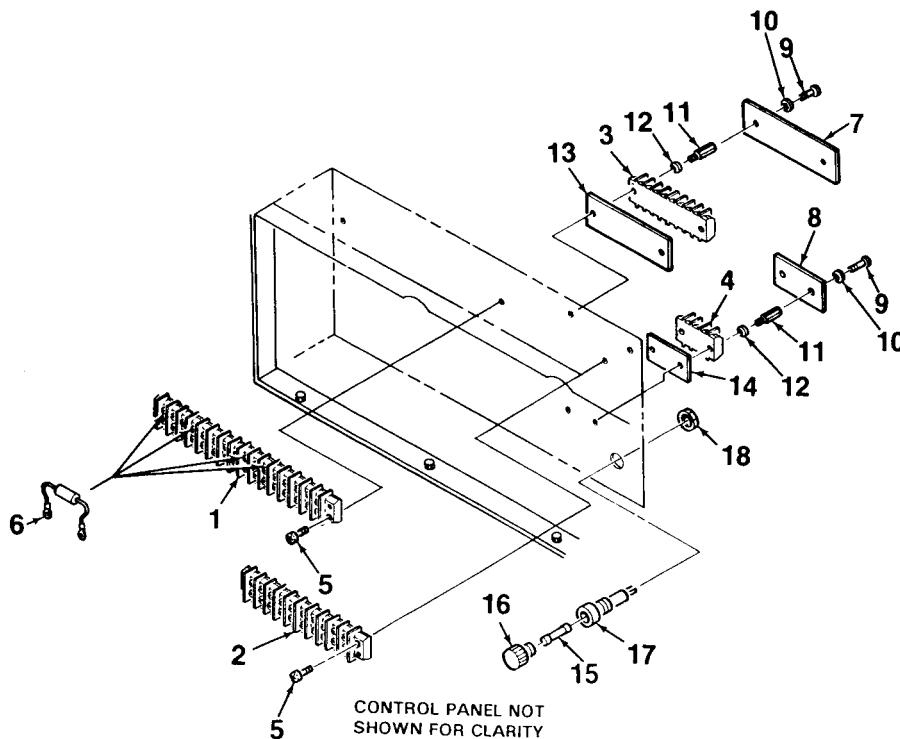

Figure 4-16. Terminal Blocks, Fuse, and Diodes
1. To remove fuse (15, Figure 4-16), turn quarter-turn fasteners to unlock and open control panel. Unscrew cap (16) from fuse holder (17) and remove fuse.
2. Tag and disconnect electrical wiring from terminal blocks TB5 (1) and TB3 (2).
3. Remove terminal blocks TB5 (1) and TB3 (2) from inside wall of control box by removing screw and captive washer assemblies (5).
4. Remove five diodes (6).
5. To remove terminal blocks TB4 (3) and TB6 (4), unlock main access cover latches and open cover.
6. Remove clear plastic covers (7, 8) from terminal blocks TB4 (3) and TB6 (4) by removing screws (9) and lockwashers (10).
7. Tag and disconnect electrical wiring from terminal blocks TB4 (3), and TB6 (4).
8. Remove terminal blocks TB4 (3) and TB6 (4) from rear of control box by removing standoffs (11) and lockwashers (12). Remove identification plates (13, 14).
9. Remove fuse holder (17) from control box by removing nut (18).
1. Install fuse holder (17, Figure 4-16) onto control box using nut (18). Install fuse (15) and cap (16).
2. Mate terminal blocks TB4 (3) and TB6 (4), and identification plates (13, 14) to rear of control box. Secure using standoffs (11) and lockwashers (12).
3. Connect electrical wiring to terminal blocks TB4 (3) and TB6 (4). Install clear plastic covers (7, 8) using screws (9) and lockwashers (10).
5. Install diodes (6) onto terminal block TB5 (1).
6. Mate terminal blocks TB5 (1) and TB3 (2) to inside wall of control box. Secure using screw and captive washer assemblies (5).
7. Connect electrical wiring to terminal blocks TB5 (1) and TB3 (2).